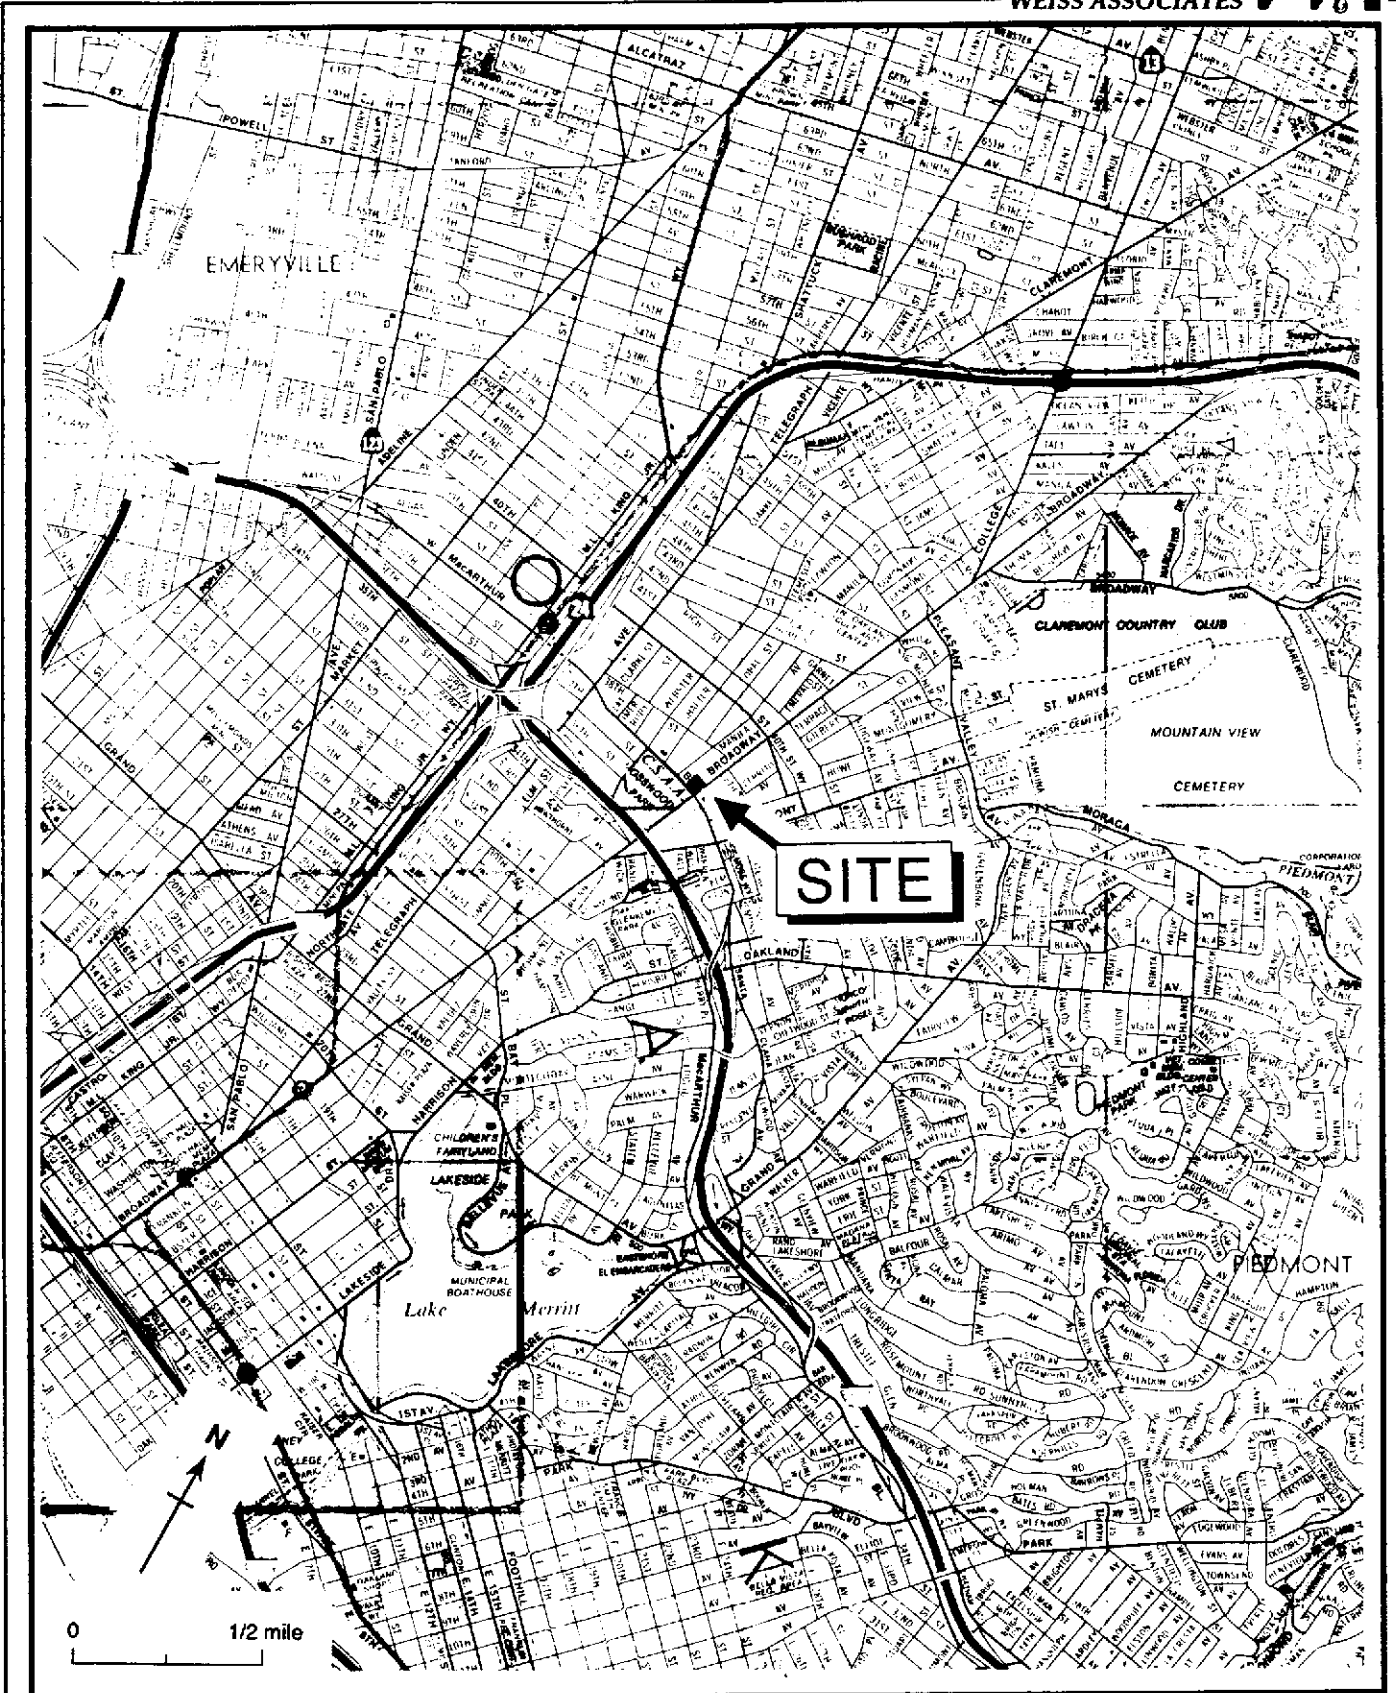

Figure 1. Site Location Map -Former Chevron Service Station #91026, 3701 Broadway, Oakland, California
Weiss Associates (WA) collected ground water samples from eight monitoring wells on November 9, 1989 as part of the quarterly ground water monitoring program at former Chevron Service Station #91026 in Oakland, California (Figure 1). Monitoring wells B and B-3 contained free-floating hydrocarbons and were not sampled. Monitoring well F was bailed dry and did not recover sufficiently to sample. Wells B-5 and C have been paved over so they could not be sampled this quarter. Ground water samples from monitoring wells A, B-1, B-2, B-4, B-6 and B-7 contained benzene above the California Department of Health Services (DHS) maximum contaminant level (MCL) for drinking water. Ground water samples from monitoring wells B-2 and B-7 contained ethylbenzene and xylenes above DHS MCLs. Ground water samples from monitoring wells B-1, B-2 and B-7 contained toluene above the DHS recommended action level for drinking water.